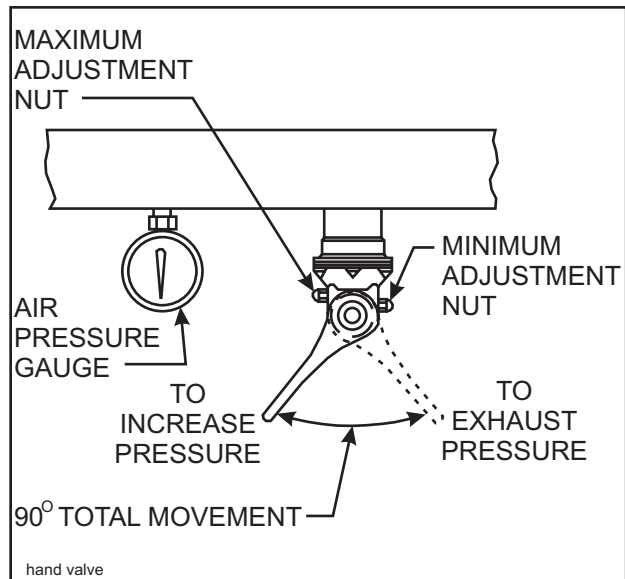

Figure 3-5 Hand Valve
The **HAND VALVE** (See **Figure 3-5**) is located on the front side of rear tail channel beside the **AIR HEIGHT CONTROL VALVE**. It has two positions:
The **PRESSURE GAUGE** (See **Figure 3-5**) is located near the **HAND VALVE**. This gauge provides air pressure information for adjusting the air ride system manually.
**3-15.1** Minimum air pressure should be at least three (3) psi. Loosen the minimum adjustment nut (See **Figure 3-5**), set the air pressure at three (3) psi and tighten the nut again.
**3-15.2** Maximum air pressure should be no more than 85 psi. Loosen the maximum adjusting nut (See **Figure 3-5**), set the air pressure at 85 psi and tighten the nut again.